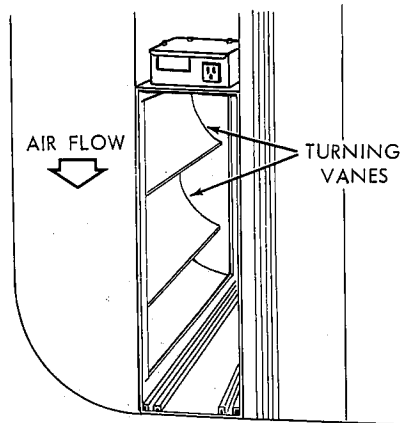

Figure 14
4. Using butt joint, attach ductwork (normally an elbow) to the upstream side of air cleaner cabinet. (Note the use of the sheet metal turning vanes inside the elbow. (figure 14) Although not necessary they will improve air distribution over the face of the cells.)